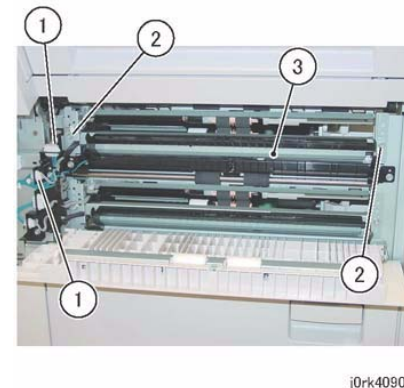

Figure 3 Tray 1 Feeder Assy Removal
7. Remove the Tray 1 Feeder Assembly. (Figure 3)